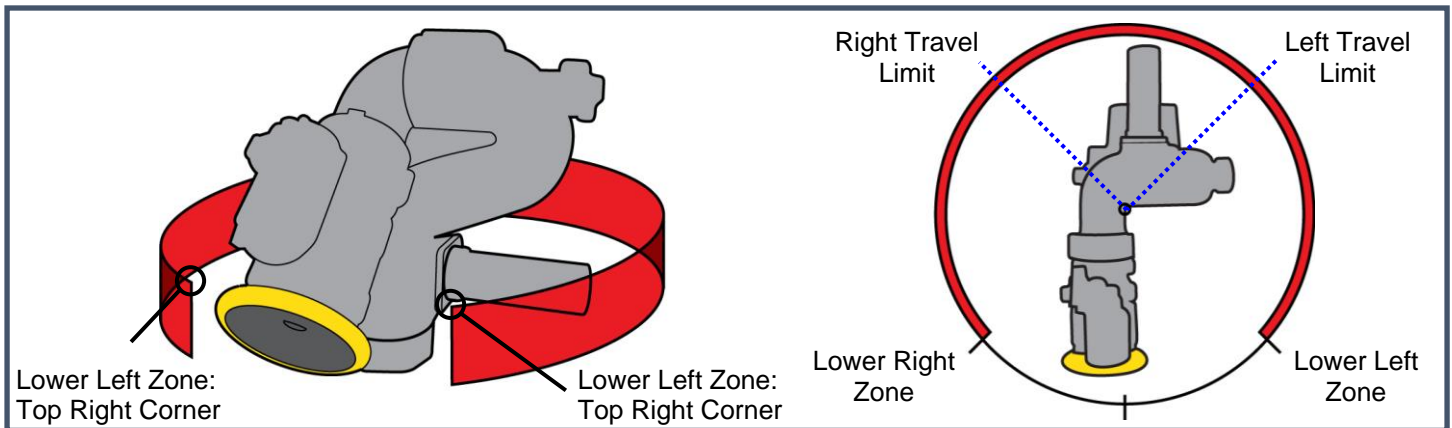

Figure 1: Keep-Out Zones
- Lower-Right Keep-Out Zone - The Right Keep-Out Zone will prevent the monitor from moving down and to the right into a specified zone (reference figure 1)
- **Lower-Left Keep-Out Zone** - The Left Keep-Out Zone will prevent the monitor from moving down and to the left into a specified zone (reference figure 1)